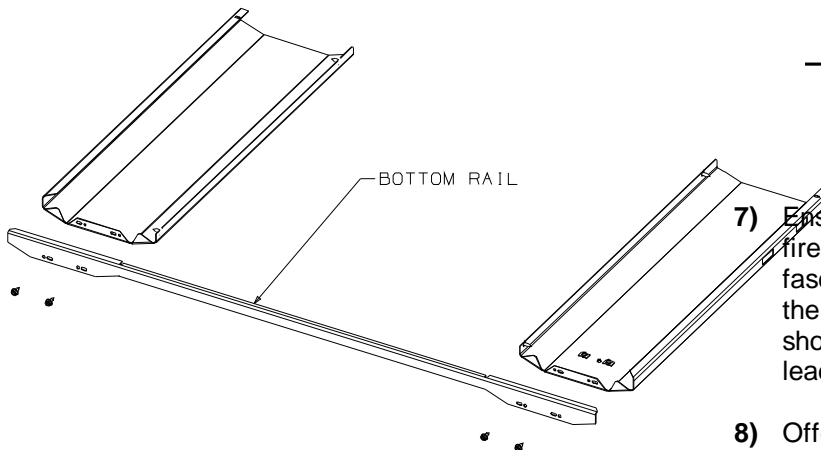

Fig 1.
- 2) Align the bottom flange of each side panel with the corresponding end of the bottom rail. Using the self-tapping screws provided, attach the bottom rail to the bottom flanges of the side panels. Tighten the screws only loosely at this stage. See Fig 1.